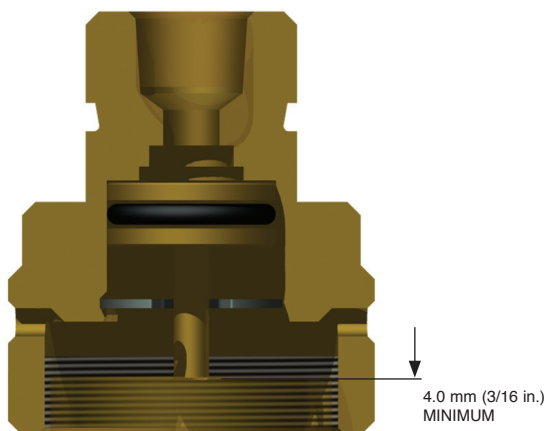

FIGURE 6-31
1. Check that the actuation pin is in the non-fired position. See Figure 6-31.